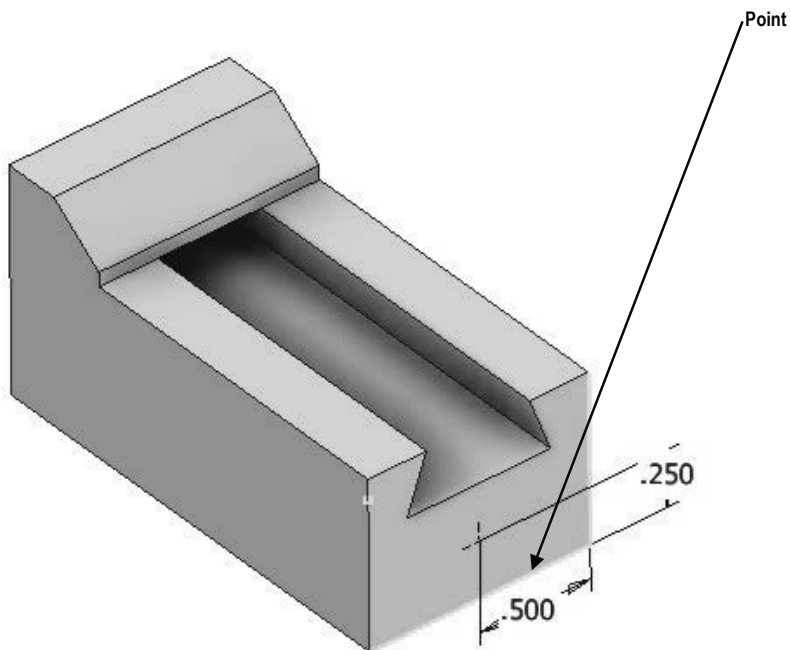

Figure 5
7. Begin a New Sketch and create a **Point** on the surface shown in Figure 5.